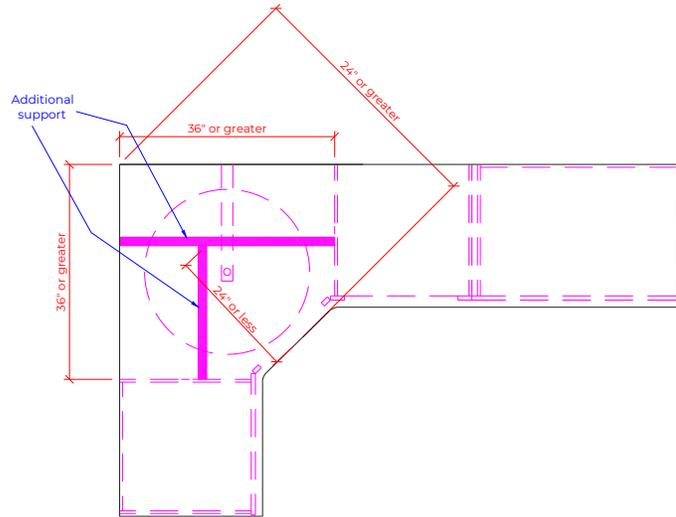

FIGURE 15
14. For Cambria countertops supported on four sides (including large cabinets such as a corner cabinet or lazy Suzan cabinet), if either the length is $>36"$ or the depth is $>24"$, additional front-to-back underside support is required, at minimum, every $36"$ in addition to the outside perimeter support. See Figure 15.